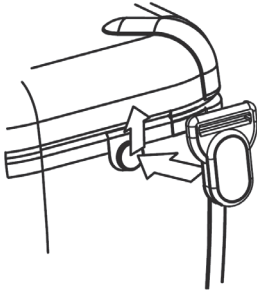

Fig. 58
Correct assembly is shown in Fig 58, 59 and 60. By hanging the instrument round the neck, both hands will be left free for testing.
1. Attach the Buckle to the KT65DL as shown in Fig.58.